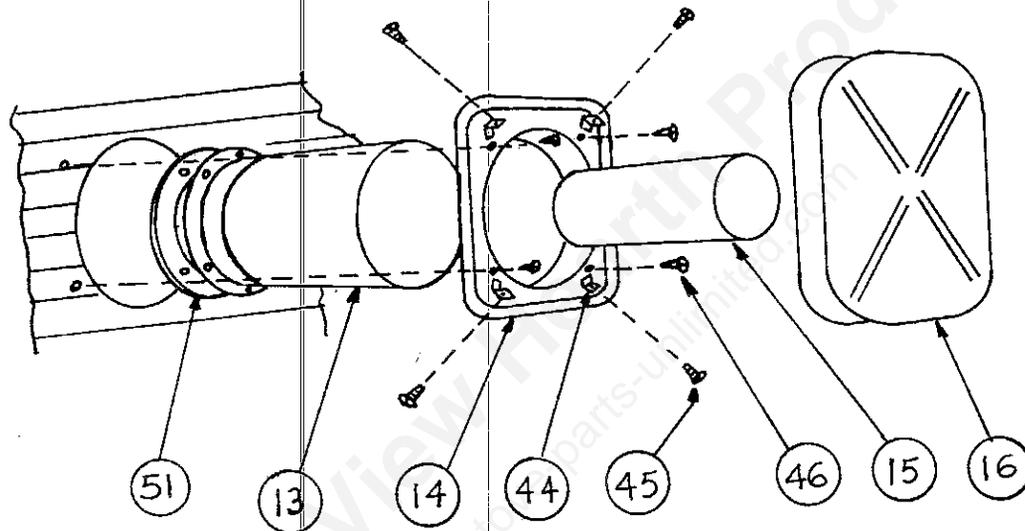

FIG. 4
1. The vent assembly was designed for a wall with overall thickness of 12". If your wall is less than 12" thick, it will be necessary to remove part of the length of the vent extension tubes (13 and 15), (Fig. 4).